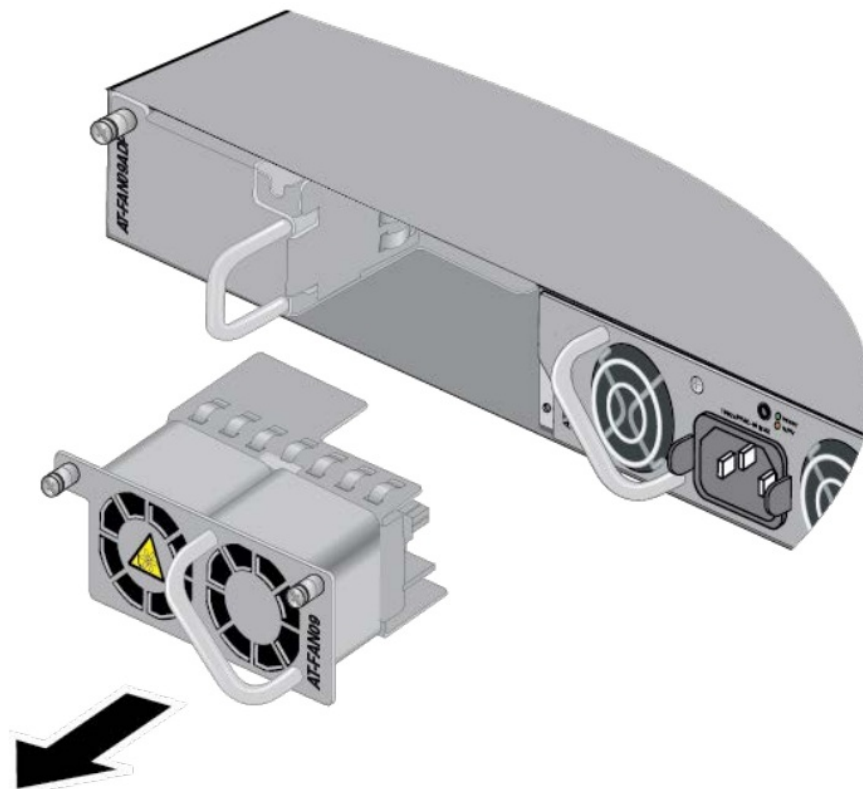

Figure 29. Removing the AT-FAN09 Module
4. Carefully pull the AT-FAN09 Module from the switch. Refer to Figure 29.